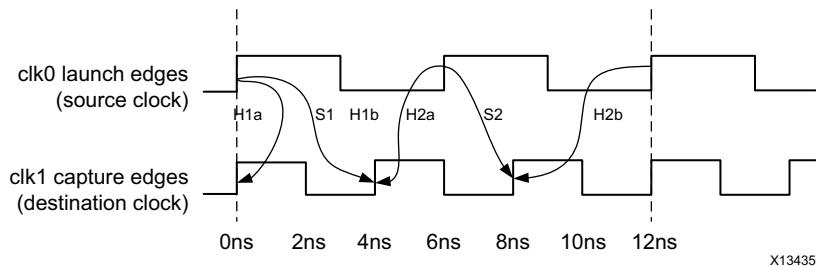

Figure 5-4: Hold Relationships per Setup Relationship
- The data sent by the setup launch edge cannot be captured by the active edge before the setup capture edge (H1a and H2a corresponding to setup edges S1 and S2 respectively in Figure 5-4, Hold Relationships per Setup Relationship).
- The data sent by the next active source clock edge after the setup launch edge cannot be captured by the setup capture edge (H2a and H2b corresponding to setup edges S1 and S2 respectively in Figure 5-4, Hold Relationships per Setup Relationship).